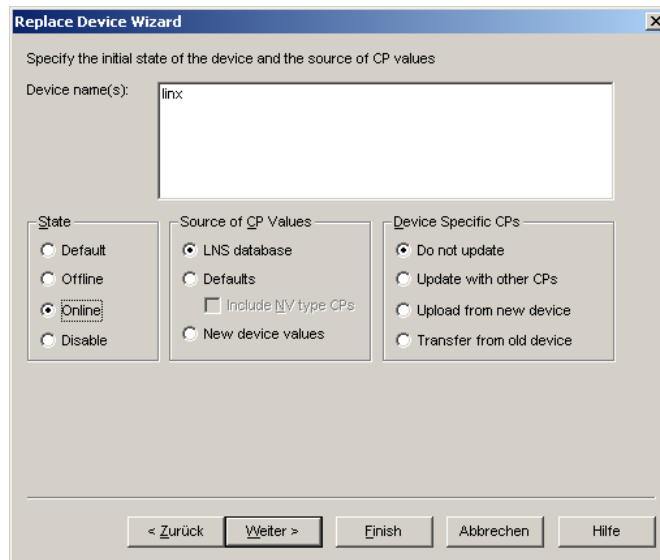

Figure 98: Select online state.
5. Then select **Online** as shown in Figure 98.